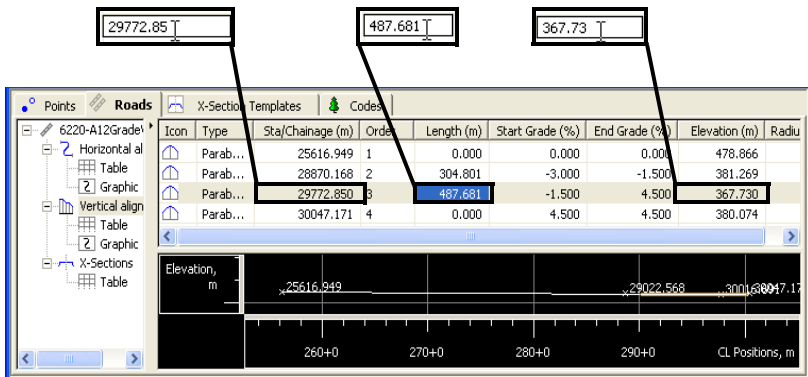

Figure 6-54. Editable Fields on the Roads Tab – Vertical Alignment Example
- In the vertical alignment panel, you can edit only the Sta/Chainage, Length, and Elevation fields directly on the *Roads* tab. Click-pause-click to access editable fields. Figure 6-54 shows an example of editing fields on the *Roads* tab, vertical alignment panel.